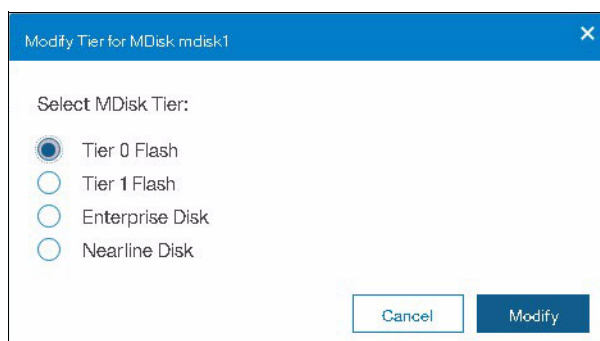

Figure 7-5 Select wanted MDisk tier
3. The new window opens with options to change the tier (Figure 7-5).